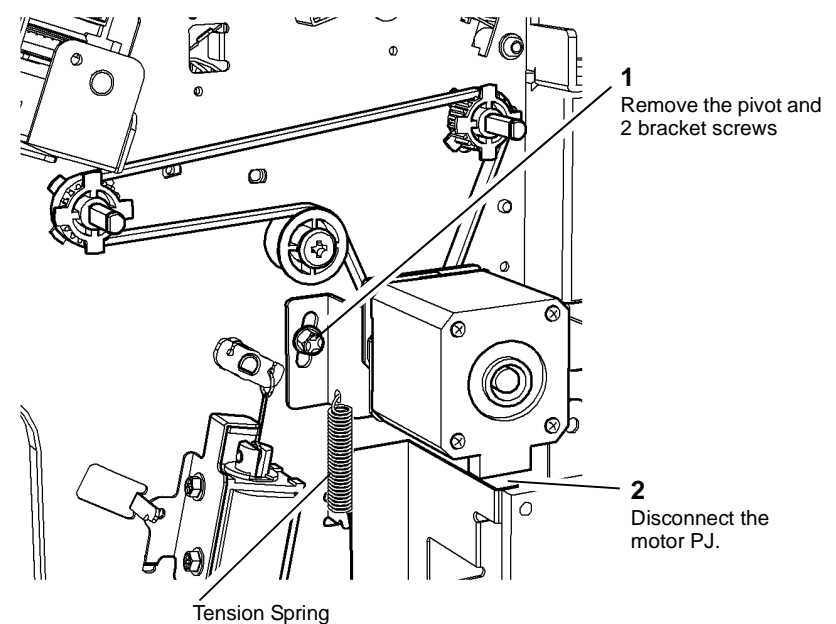

Figure 1 Bypass feed motor and bracket
2. Remove the bypass feed motor and bracket assembly, Figure 1.